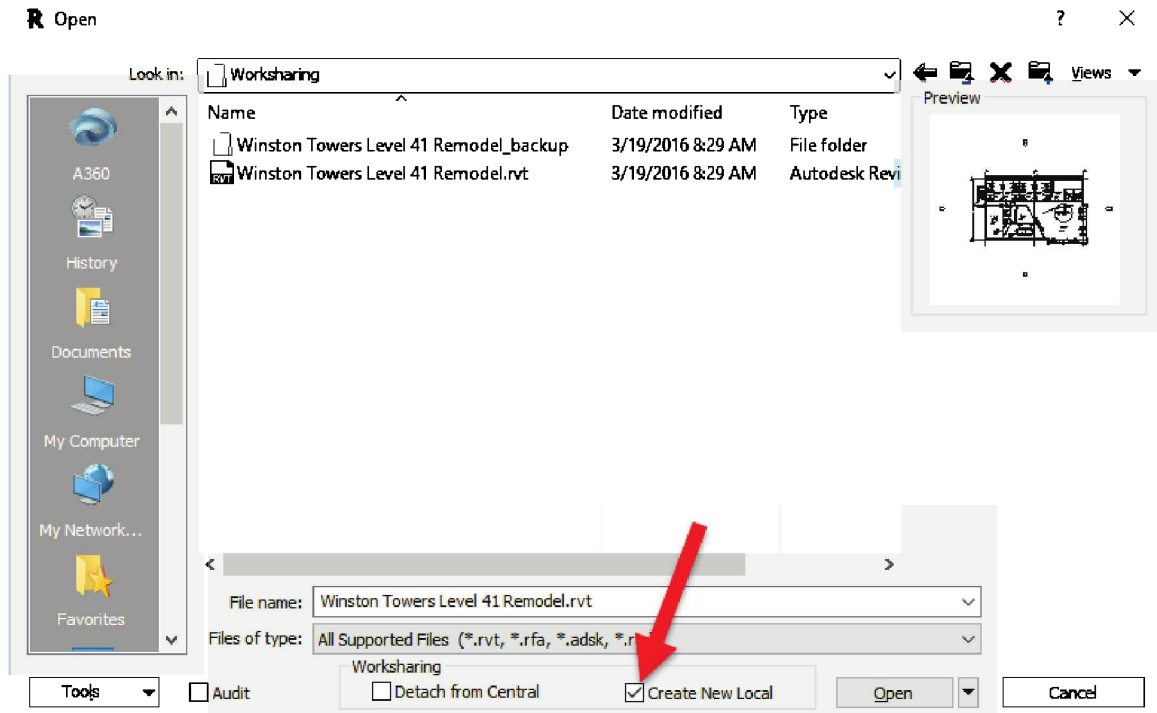

FIGURE 17-2.6 Create New Local check box; Revit Open dialog
- Ensure **Create New Local** is checked (Figure 17-2.6)